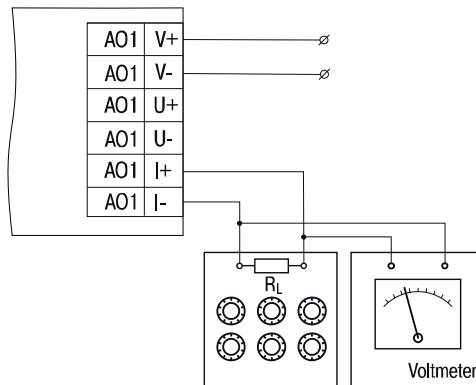

Fig. 6.3 Connection of the current reference signal source to an output ($R_L < 300 \Omega$)
1. Connect the reference signal source according to Fig. 6.3 or 6.4 to the output.